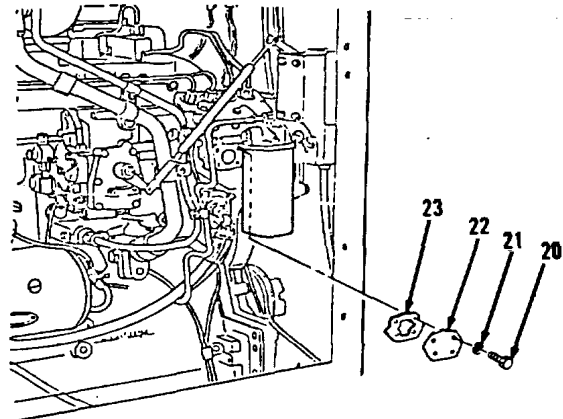

Figure 3-31.
21. Remove four bolts (20), washers (21), cover (22) and gasket (23, Figure 3-31) from fuel pump housing. Discard gasket (23). Remove all gasket material from mounting surfaces.